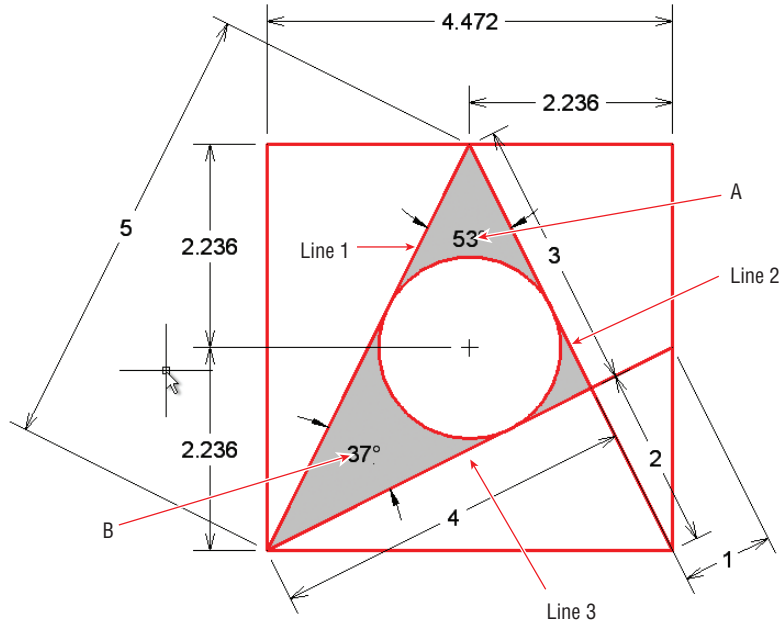

FIGURE 11.18 Adding angular dimensions
- Open the dimension menu in the Annotation panel, and select the Angular tool. Select lines 1 and 2, as shown in Figure 11.18, and then click point A. Press the spacebar to repeat the DIMANGULAR command, select lines 2 and 3, and then click point B.